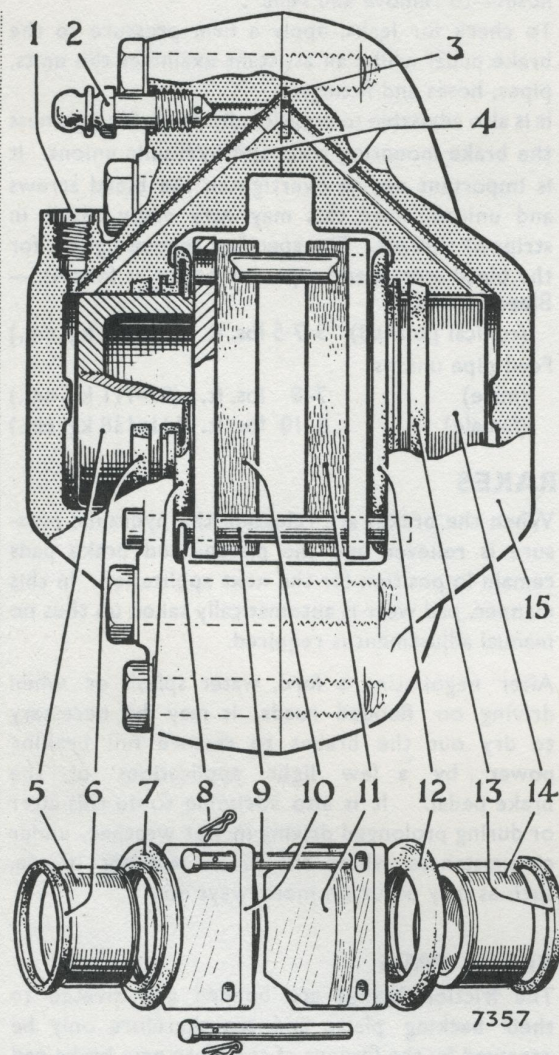

Fig. 2. Exploded view of caliper assembly, Series II models onwards.
On the Alpine II and III there is provision for relocating the master cylinder push-rod in another position on the brake pedal. This in effect moves the pedal pad approximately $1\frac{1}{2}$ in. (4cm) further away from the driver. The inset of Fig. 2, Section D shows a similar arrangement on the clutch pedal
When replacing the brake pads, the opportunity should be taken to examine the condition and fitting of the rubber dust covers (item 17 Fig. 2). The method of removing the dust covers is given under "Calipers—to dismantle".
To remove and refit (Figs. 2 and 2a)
To dismantle (See Fig. 2)